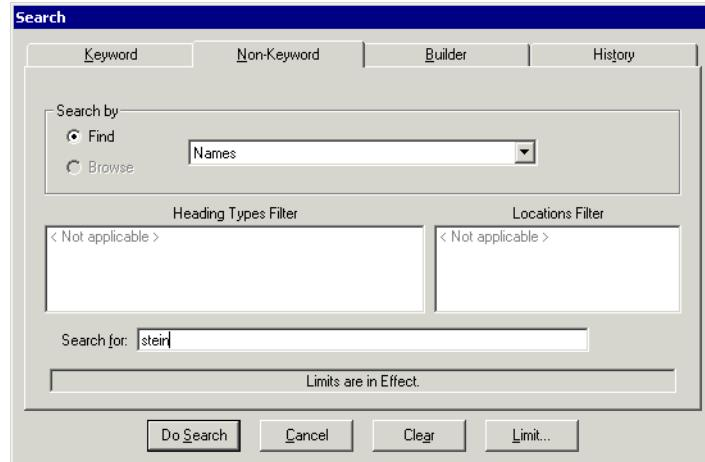

Figure 2-29. Completed Non-keyword tab
7. Enter your search term in the **Search For** field (see Figure 2-29).